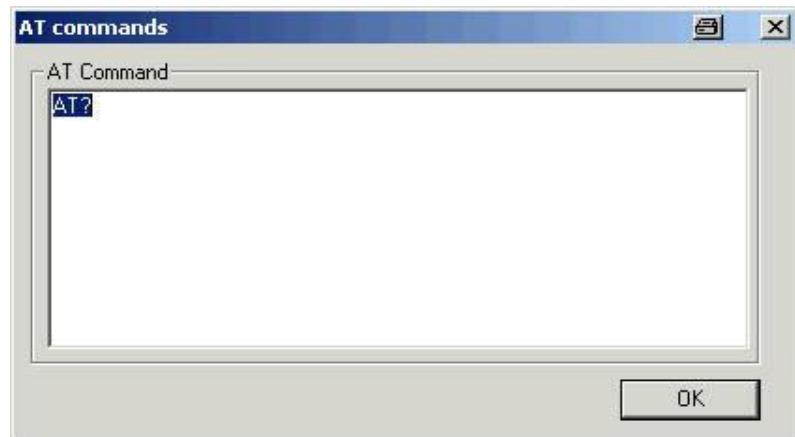
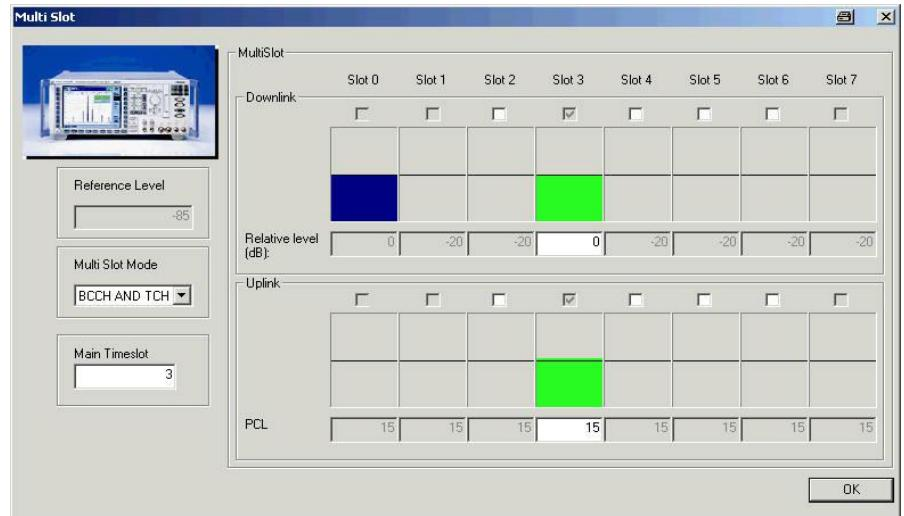

Fig. 28 - Call Setup: AT commands
Fig. 30 - Call Setup: multislot
under **Support** in **Network Setup**. Thus, the CMU already generates a BCCH here with information about (E)GPRS so that additional (E)GPRS tests can be performed after the GSM test without carrying out another location update. The **Slot** mode differentiates between a single slot (conventional GSM (voice or data) and the **Multislot** mode (data only). If you select **Single Slot**, CMUgo uses the parameters under **Single Slot Configuration**; in the **Multislot** mode, an additional dialog is available (see Fig. 30). Now you have to specify the call direction: **Call to mobile** (MTC) or **Call from mobile** (MOC). Moreover, the phone can automatically be controlled via AT commands here: **from mobile (voice, AT commands)** sends ATD sends and the number listed under the dialed number should be to the phone; **from mobile (data, AT commands)** opens an additional dialog box in which you can enter any AT commands (Fig. 28). Finally, **Attenuations** allows you to specify the RF connector and the input and output attenuation.